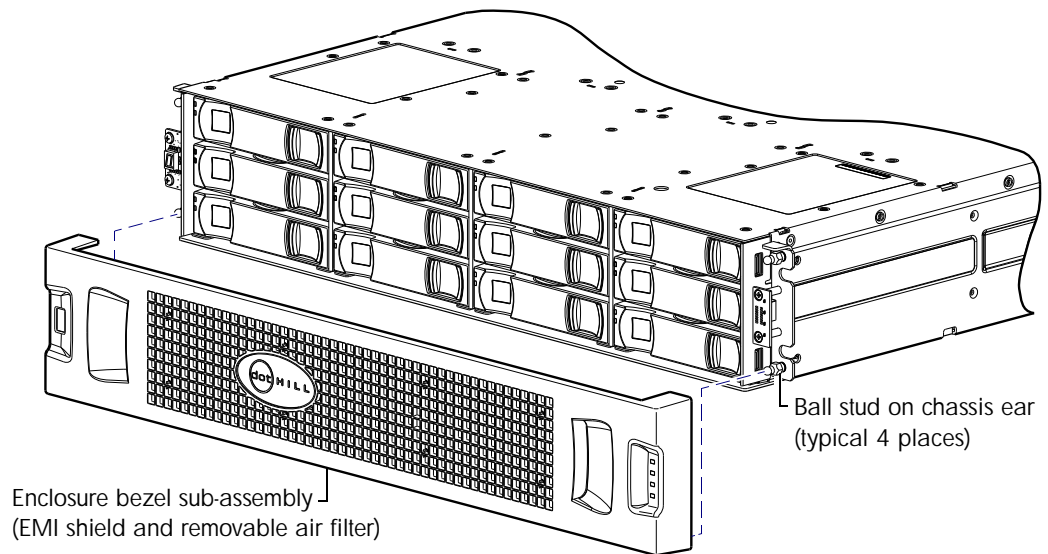

Figure 14 Partial controller enclosure assembly showing bezel alignment (reduced-depth 2U12)
- Assembly (partial) — Figure 14 on page 25 (shows bezel alignment)
The enclosure illustration above intentionally does not show exploded ear covers. See Figure 14 on page 25 for an illustration showing how the bezel aligns for attachment to the enclosure front panel, via press-fit onto four mounting ball studs located on chassis ears.
The reduced-depth 12-drive enclosure includes a bezel sub-assembly that attaches to the front of the chassis (see Figure 14 on page 25). The bezel — comprised of a vented cover attached to an EMI (Electromagnetic Interface) shield — is pre-assembled and foam-packed within a box contained in the enclosure master shipping container. The bezel might optionally include a removable air filter that can be serviced or replaced. Hard copy instructions for attaching/removing the bezel, and for servicing or replacing the air filter, are provided in the shipping container of a new enclosure.
- See Figure 14 on page 25 for reduced-depth 2U12 enclosure bezel alignment.